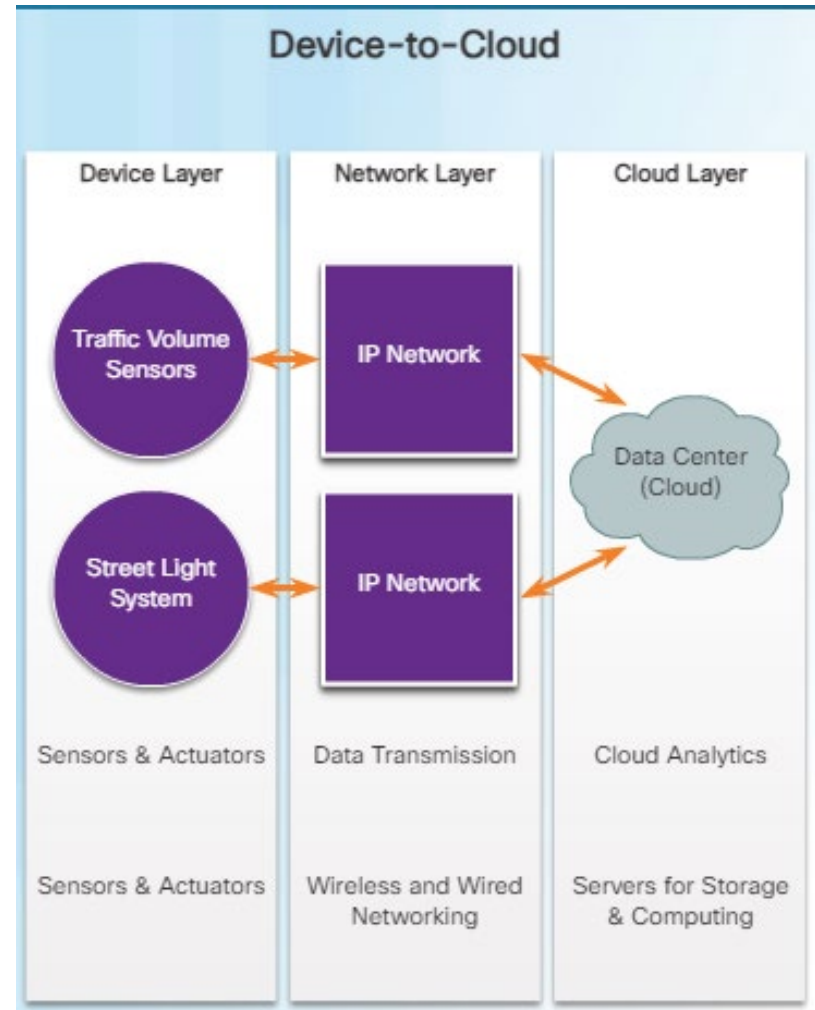

Figure 2
- **Device-to-Cloud (Figure 2)**